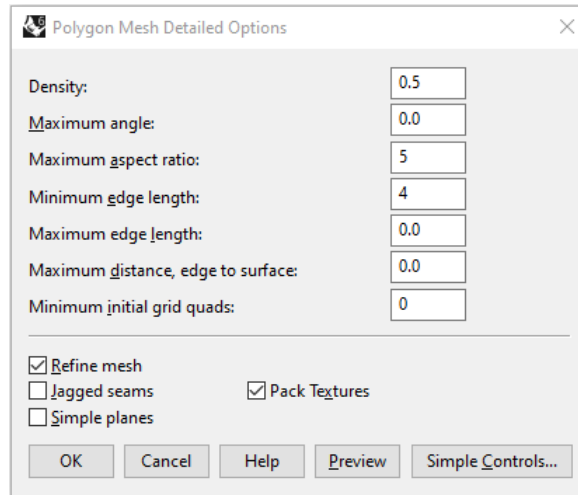

Figure 14: Rhino meshing dialog to create an initial mesh.
14. Select all objects and type the command **_Mesh**. If a simplified dialog appears, click on the *Detailed Controls...* button and enter the values as shown in Figure 14.